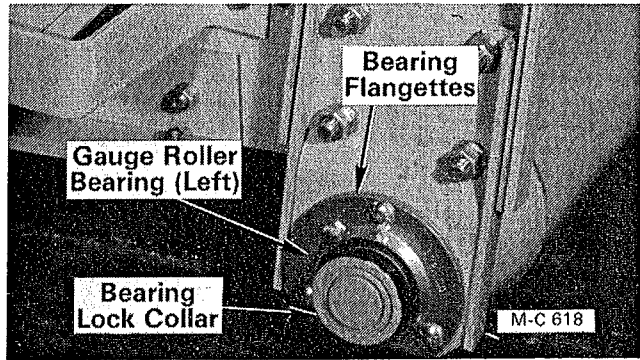

Figure 35 - Gauge Roller Brg. - Below S/N 47198
2. Support the gauge roller with safety stands or blocking. Remove the two set screws in the bearing locking collar and remove the collar, see Figure 35 and 36.